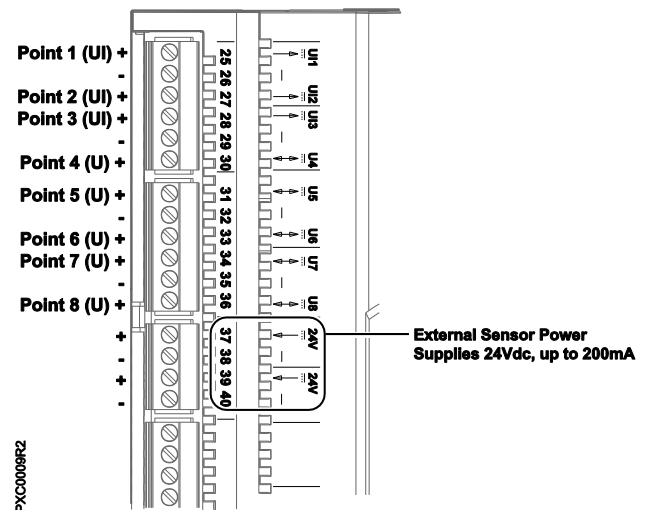

Figure 2. Polarity for Point Connections.
3. Terminate point wiring to the appropriate connectors (Figure 2).